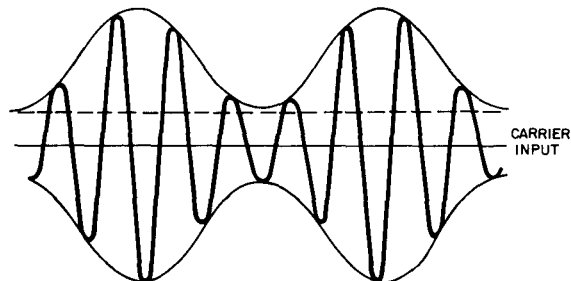

Figure 11. Apparent FM produced by AM wave.
3.7.3 EFFECTS OF AMPLITUDE MODULATION. The presence of high levels of amplitude modulation on the input signal can also produce errors. Obviously, as the modulation approaches 100%, the input carrier is near zero amplitude during a considerable number of carrier-frequency cycles, and the input level may be too low for proper operation of the Type 1142-A. Even with sufficient signal a difficulty exists, as shown in Figure 11. The start time of the output pulses is determined by the time at which the input signal reaches a given instantaneous value; therefore, any change in the slope of the input signal affects the time of these pulses with respect to the zero crossing of the input signal. The fm deviation produced by amplitude modulation is approximately: